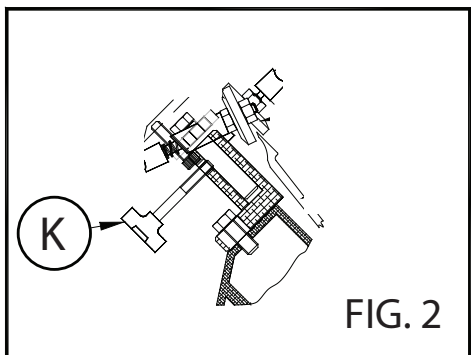

FIG. 2
- Loosen the Sharpener Lock Knob (K in Fig. 2) under the Sharpening Assembly until it springs up;
- Lift the Sharpener Assembly and rotate 180°. Reassemble and secure the assembly. Verify that the stones are on each side of the Knife (approximately 1/4" under the edge); tighten the knob (K in Fig. 2);